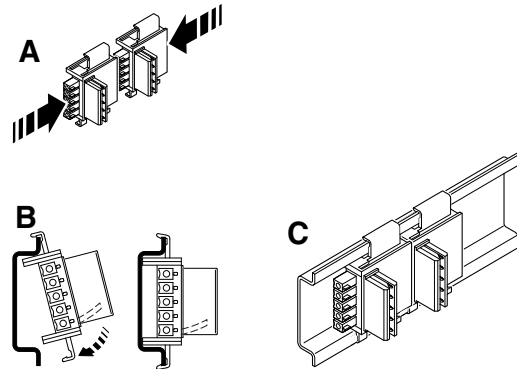

Figure 8 Combined assembly
- Connect together the required number of DIN rail connectors for the connection station. Two DIN rail connectors are required for each device (see A in Figure 8).